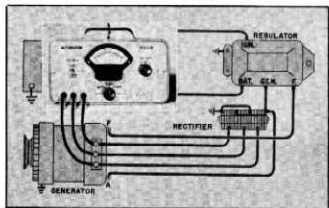

Fig. 45
1. Before connecting the alternator tester, turn the voltmeter selector switch to the 30-volt position. Connect the three test leads (fig. 45), start engine and adjust speed for a voltmeter reading of less than 15 volts.